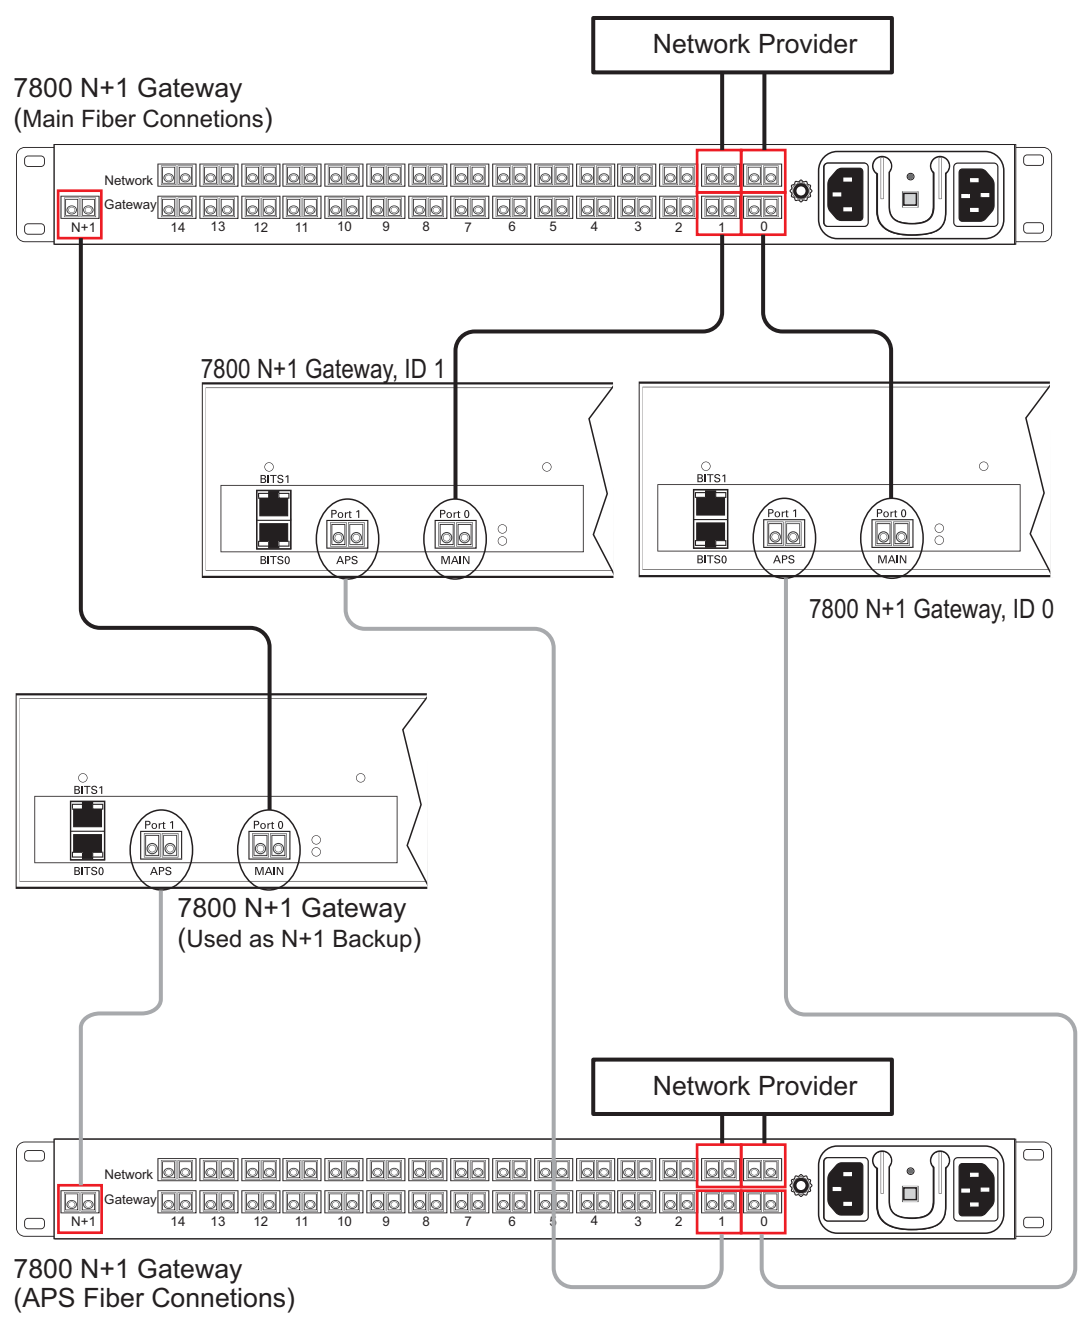

Figure 6.1 Optical Interface Connections to the 7800 N+1 Patch Panel
2. Relate the fiber optic cables from the network provider with each TMG7800-STM1 and use the same port number that is assigned to each TMG7800-STM1. See figure 6.1 on page 47